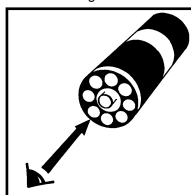

Figure 3
- a. **Low Range Comparator (fig. 3):**